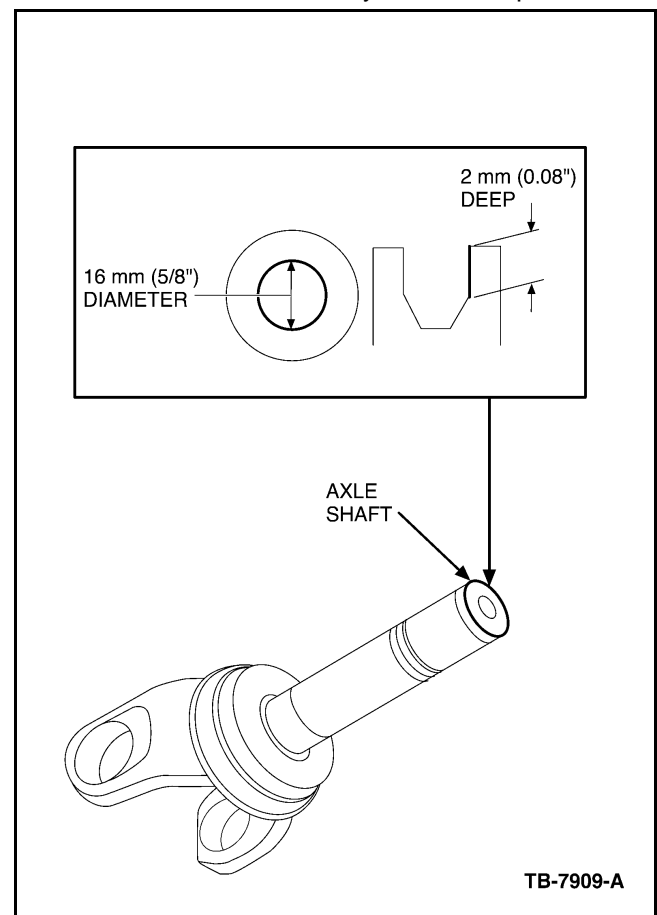

Figure 2 - Article 04-18-5
3. Drill out axle shaft pilot hole to 16 mm (5/8") diameter and 2 mm (0.08") deep (Figure 2). The axle shaft does not need to be removed from wheel-end assembly for this step.